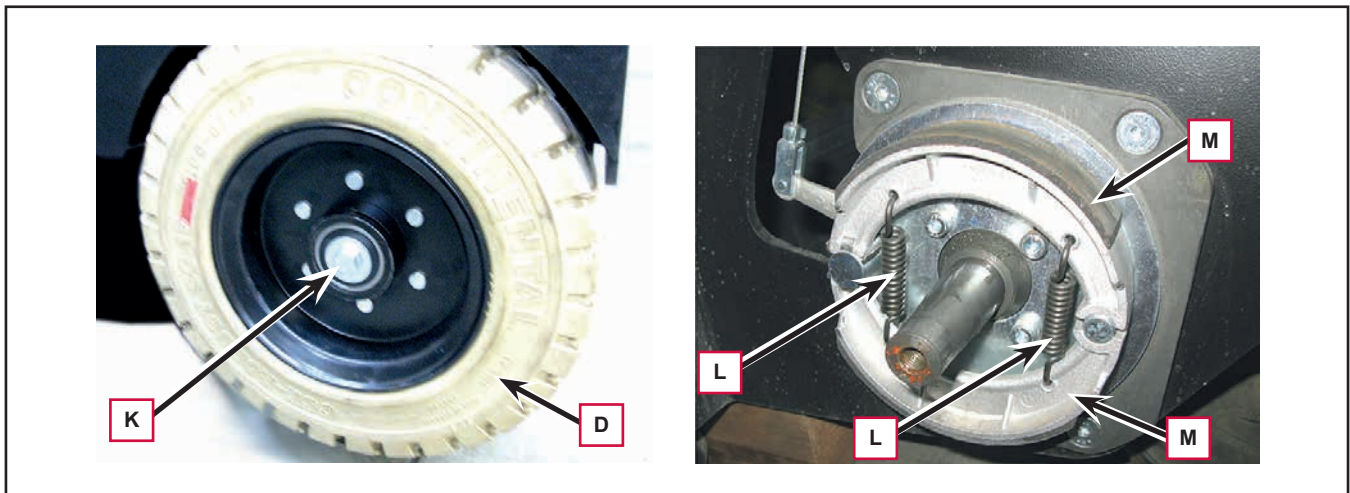

Figure 6
10. Disengage the plastic cover and unscrew the screw (K, Figure 6) on the rear wheel (D).
11. Remove the rear wheel (D).
12. Disconnect the springs (L) from the braking shoes (M).
13. Remove the braking shoes (M).